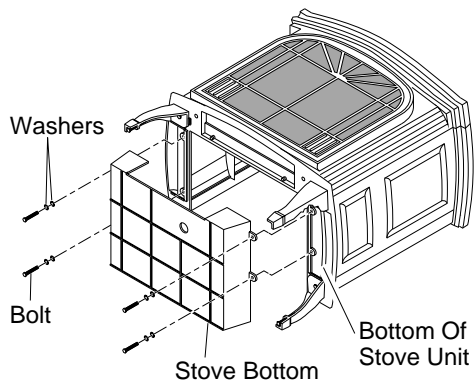

Figure 11 - Attaching Stove Bottom
9. Fasten stove bottom to stove with four (4) M6 x 1 - 25mm bolts. Use a flat washer and lock washer with each bolt. Tighten bolts into threaded holes on stove body (see Figure 9 and Figure 11, page 6). Use an adjustable wrench or a 10mm socket.